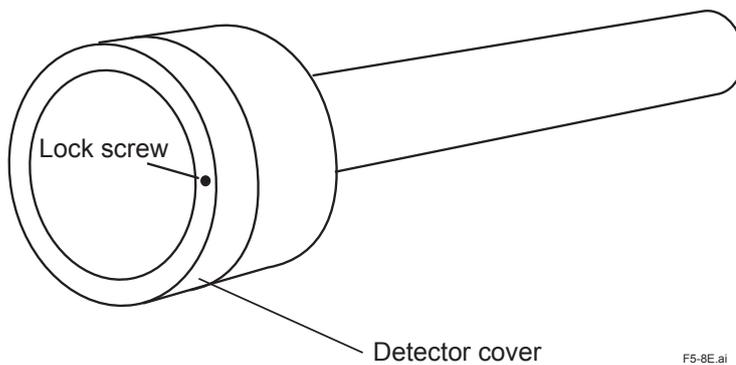

Figure 5.5
- (1) Keep ground resistance to 100 Ω or less (equivalent JIS D style (Class 3)).
- (2) When the ambient temperature of the wiring installation is 75 to 150°C for the wiring of the detector, use wiring material with sufficient heat resistance.
- (3) When connecting the ground wiring to the ground terminal of the converter case, be sure that the lock washer is in contact with the case surface (see Figure 5.5.).